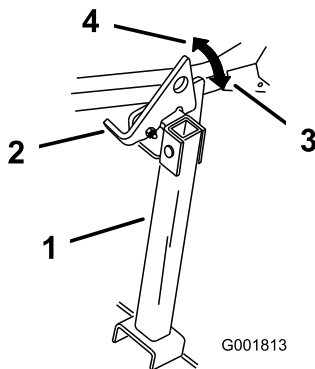

Figure 36
2. Raise the latch to the unlocked position (Figure 36).